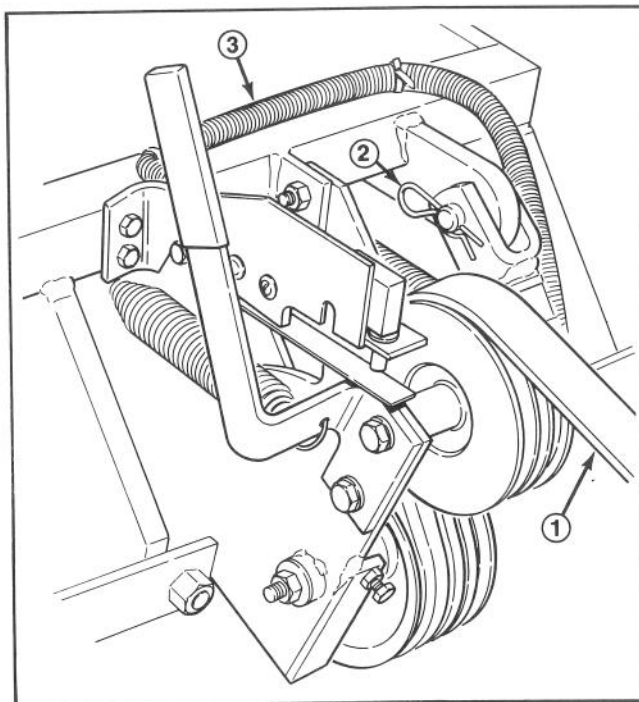

Figure 47
4. Remove the coring head drive belt from the engine pulley (Fig. 47).
7. Remove hair pin cotter from lift cylinder pin connected at coring head (Fig. 47), and remove pin.